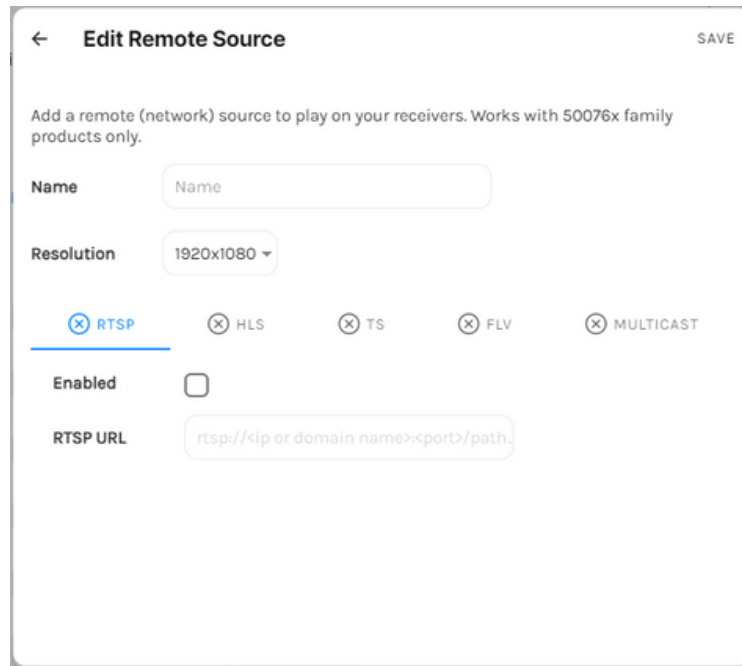

Figure 26
**G.) **: Clicking on the icon will allow you to add remote sources that can be played on your receivers. You need to give the remote source a name, select the resolution, select the protocol to use, and enter the corresponding URL of the remote source. Figure 26